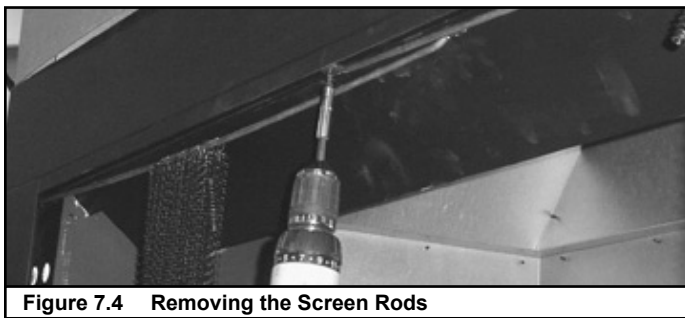

Figure 7.4 Removing the Screen Rods
- Remove screens by removing screw from the end of each screen rod. See Figure 7.4.